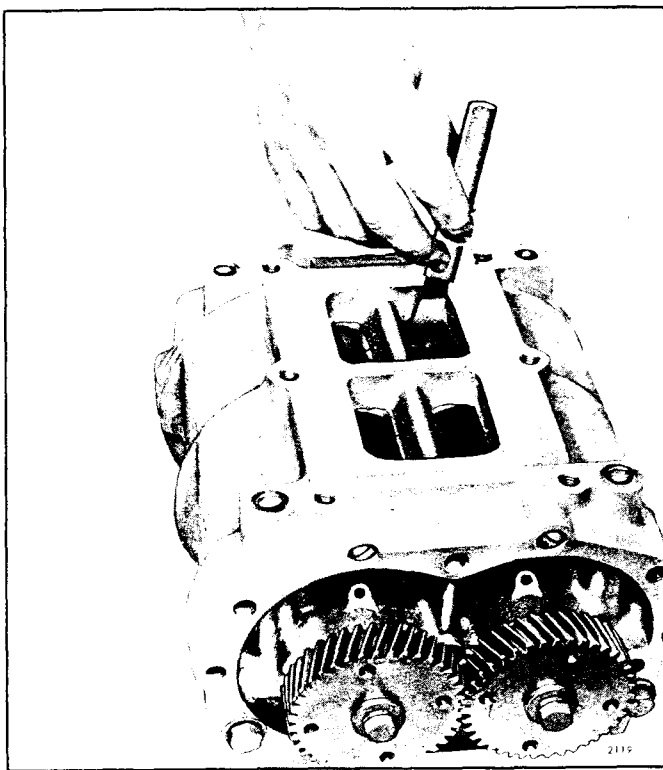

Fig. 16 - Measuring Rotor Lobe to End Plate Clearance
- c. Measure the clearance between the end of the rotor and the blower end plate as shown in Fig. 16. Refer to the chart for the required minimum clearances.